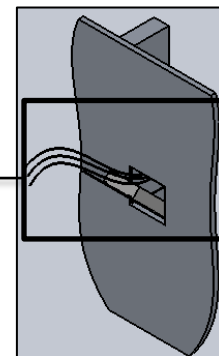

FIG. 13- DRIVER PLATE ASSEMBLY
9. Slide DRIVER PLATE into the box with the driver facing rearward as shown in FIG. 13. As you slide the plate in, make sure you pull the BUILDING SUPPLY connections through the large hole in the DRIVER PLATE and other wires will already be through center hole.